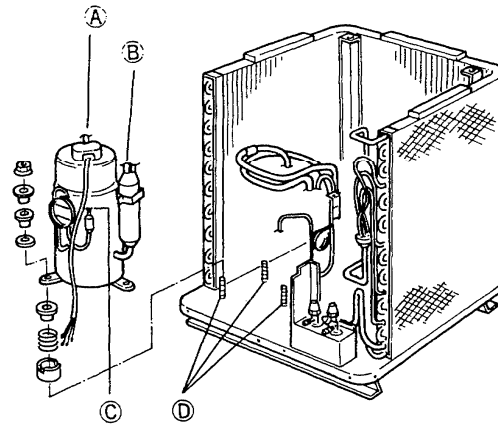

Fig. 11
Take apart three joints (A), (B) and (C) brazed to the compressor by brazing torch (Fig. 11)